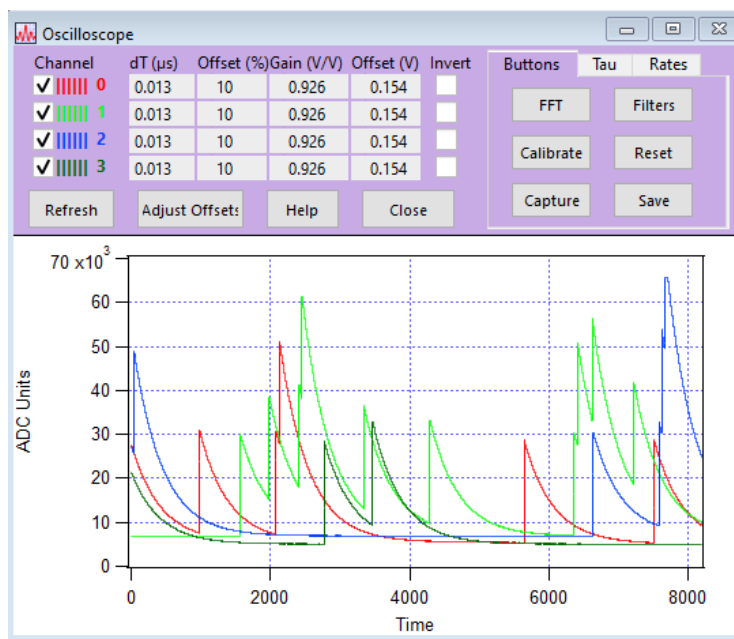

Figure 2-4: OSCILLOSCOPE panel
2. At the bottom of the PARAMETER SETUP panel, click on the [**Oscilloscope**] button. This opens a graph that shows the untriggered signal input. (Figure 2-4)